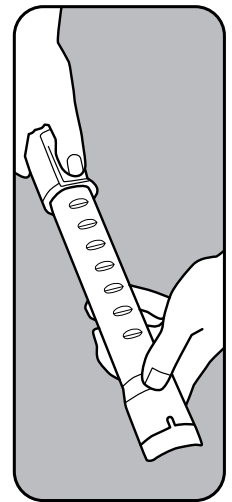

Fig. 2
- Extend the wand by pulling the button back and pulling the smaller wand out of the larger wand (Fig. 2).